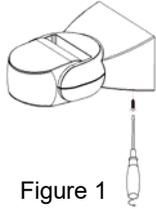

Figure 1
- Loosen the screw on the bottom and remove the cover (Figure 1).